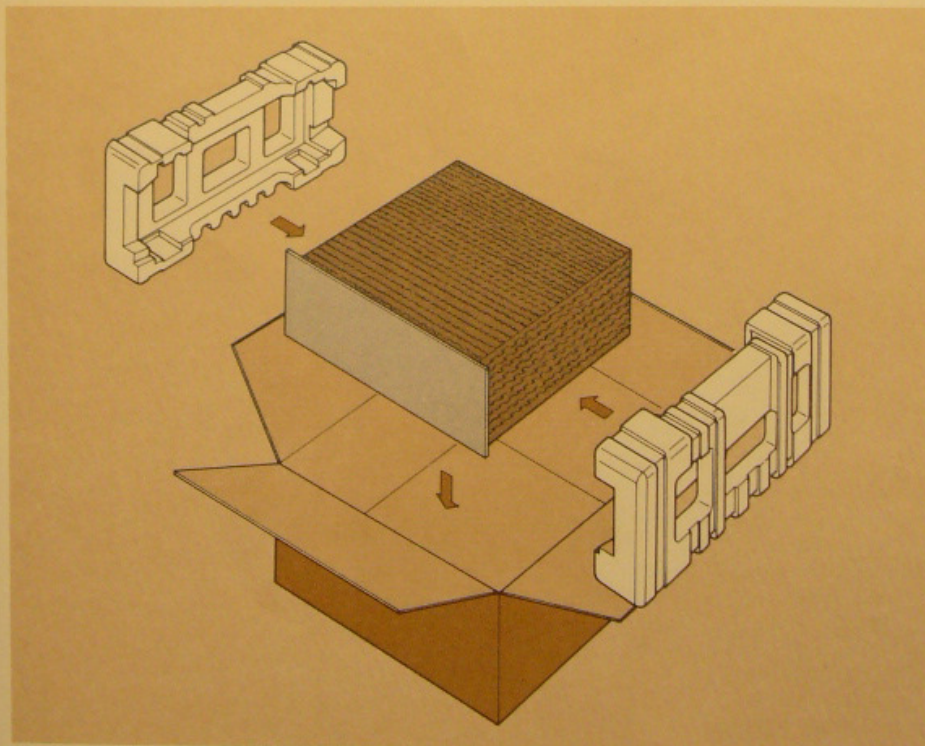

Figure 8 Packing Instructions
- b. Pack the unit carefully, using the original material as shown in Figure 8.